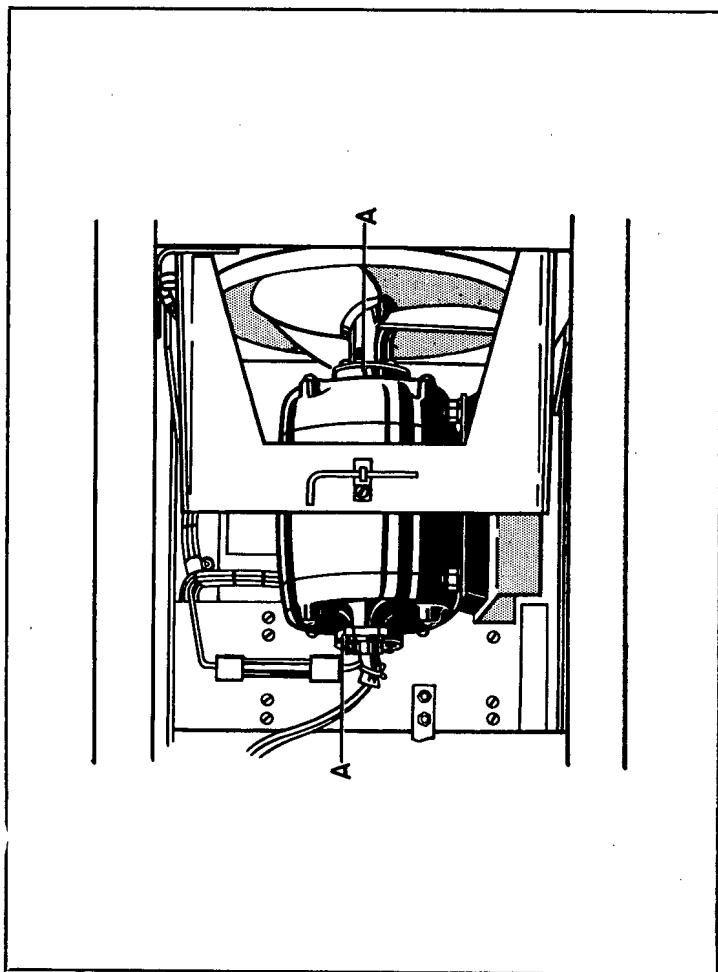

Figure 6-15. Lubrication of Rectifier Power Unit
(1) The only point in the Rectifier Power Unit that normally requires lubrication is the blower motor. The points to be lubricated are shown in Fig. 6-15. The Motor must be removed for lubrication. The first step is to remove the motor from its mounting. Then the fan must be removed. An Allen wrench is provided to loosen the set screw in the fan. The location of this wrench is shown in Fig. 6-15. To lubricate the bearings remove the plates from over the bearings, flush them with an approved solvent, Fed. Spec. VV-K-211, Federal Standard Stock Catalog no. 14-G-950, let them dry thoroughly and repack with Navy Spec. 14-L-3 Grade C as directed in Fig. 6-15. Avoid using an excess of lubricant.